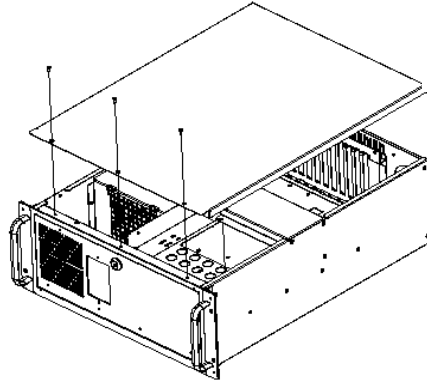

Figure 2-13. Removing the Top Cover
2. Open the 1600 unit by removing the three screws from the top cover (see Figure 2-13).
2. Open the 1600 unit by removing the three screws from the top cover (see Figure 2-13. Removing the Top Cover).